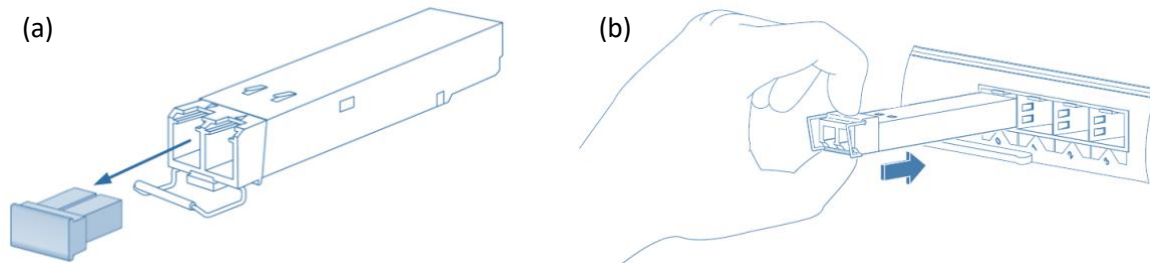

Figure 26 – SFP+ Module Installation.
4. Grasp the module between your thumb and index finger and carefully remove it from the port, as shown in figure 26.
5. Insert the clean dust covers into the module, as shown in figure 26.